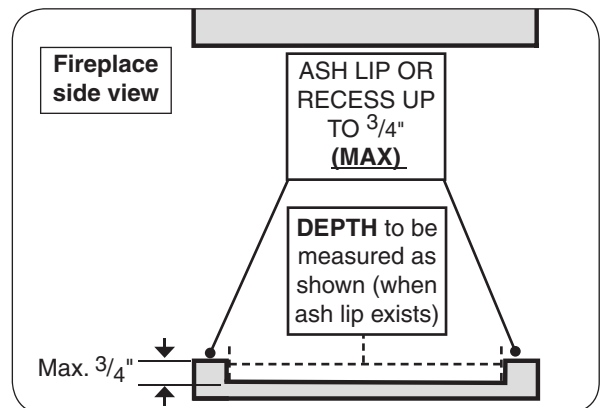

Fig. 8-1 Ash lip/recess detail
* This required width allows for centering of the unit. For 02 models, add 2" to width. † If an ash lip exists, the depth requirement begins inside of the lip (see Fig. 8-1 below).
DO NOT install this burner system in a fireplace with an ash lip or recess greater than $\frac{3}{4}$ ". See Fig. 8-1.